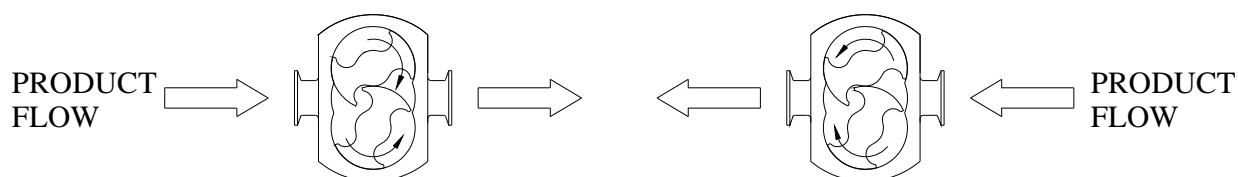

*Figure 1.0*
**LABTOP®** Pump System features **UNIBLOC®-PD** and is a positive displacement rotary lobe pump. It is supplied with a drive unit and controller within common Stainless Canopy (figure 1.0). **UNIBLOC-PD** can be supplied in the 5000 series with stainless steel bearing housing. Different models are available from each series. Table 1.0 shows the pump bearing housing and model relation. The Pump Models 200-0 - 275 are available in Vertical Position, Pump Models 300-350 are available in Horizontal Position and Pump Models 400-450 are available in either Vertical or Horizontal Position. The orientation can be modified using either a foot for horizontal or pedestal for vertical. Port orientation should be specified when ordering.